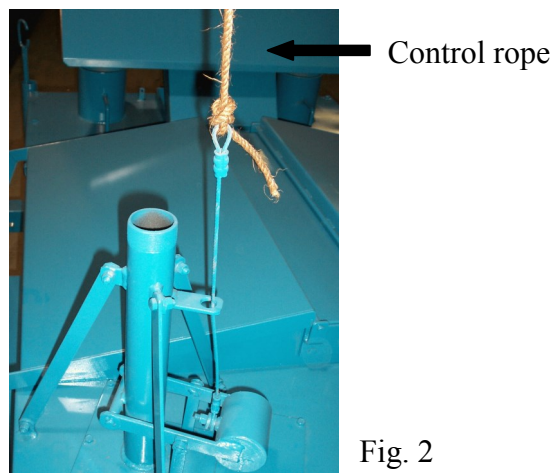

Fig. 2
2. Attach valve control rope to end of cable on valve (see fig. 2). Untie any knots in the line that could cause binding. Pulling on valve control rope closes the valve sends hot stuff to the roof. Releasing the rope opens the valve and stops the flow of material to roof. Valve must be in open position (rope released) before starting engine. Always check to see that valve is operating freely with nothing obstructing it before starting pump system.